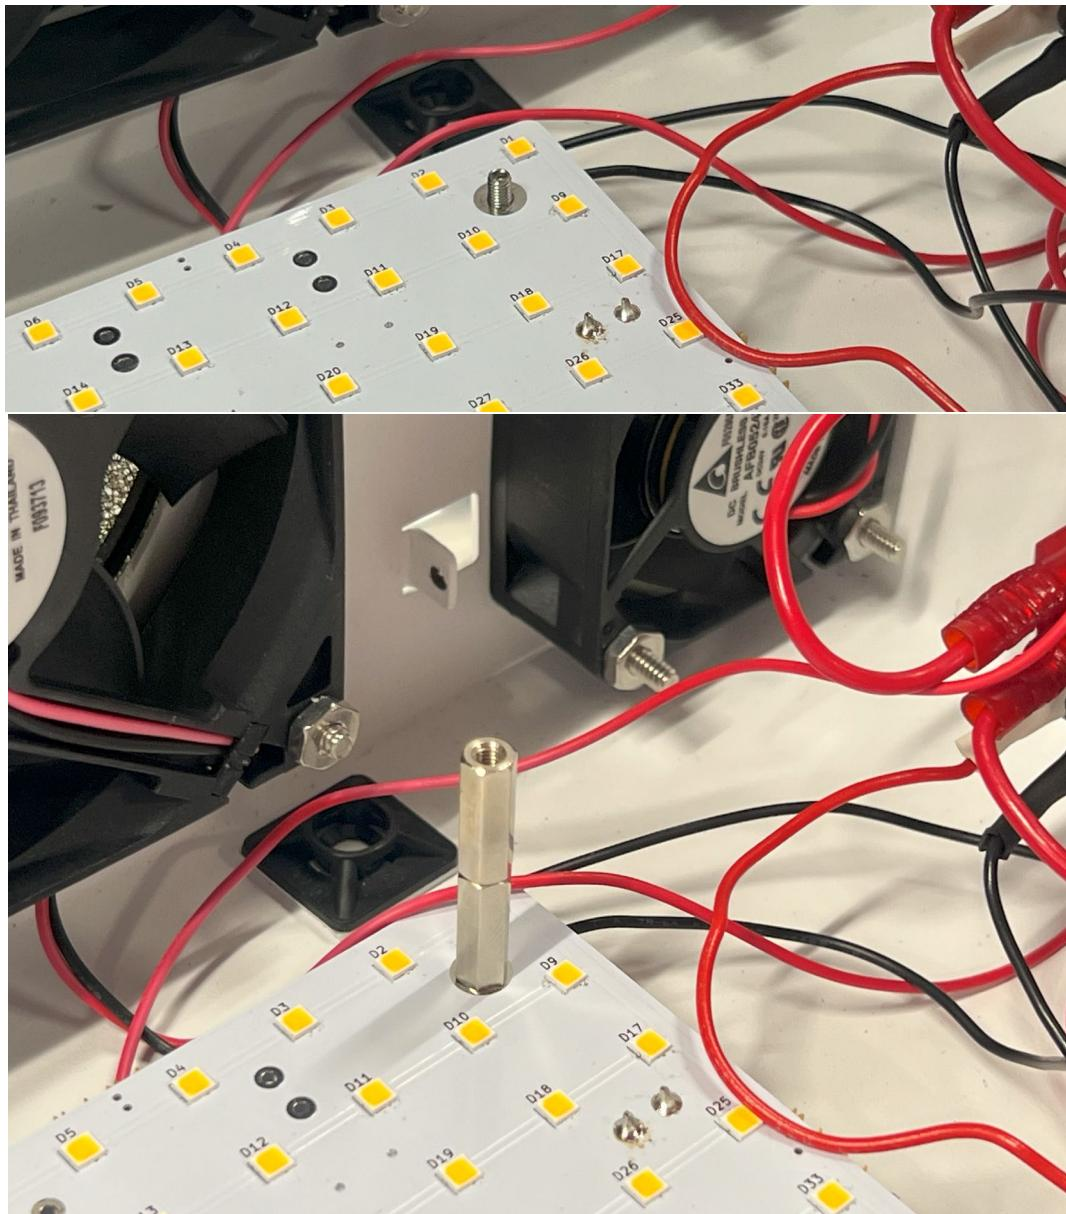

Figure 25: Set screw location and extension above the board (top) with standoffs attached (bottom).
3. On the 4 corners of the PCB array, insert an M3 set screw. **Make sure to not screw them in all the way, as they will be used to mount the Sample Stage.** Screw on the M3 standoffs to the set screw until tight. See Figure 25 for reference.